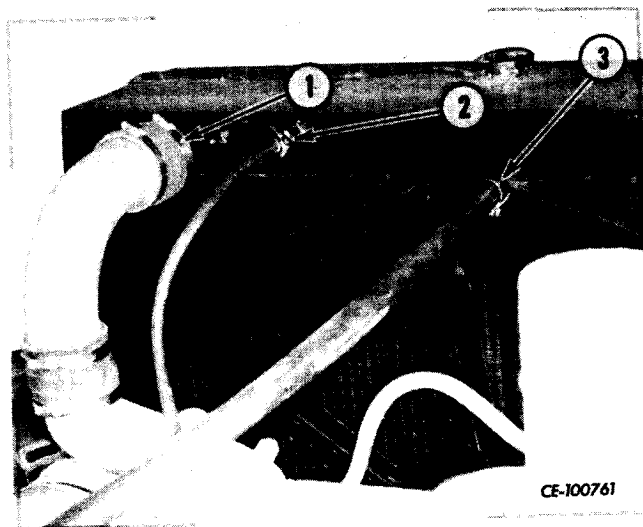

Figure 2-9
Disconnect oil cooler lines from connectors at bottom of radiator-oil cooler unit. Detach lower and upper (1, Fig. 2-9) radiator hoses, deaeration hose (2) and water pump hose (3).